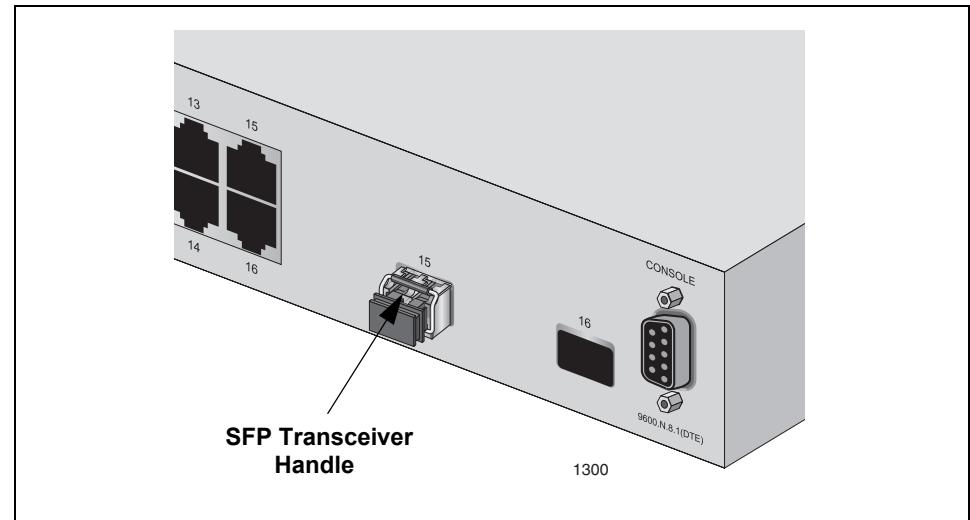

Figure 13. Positioning the SFP Handle in the Upright Position
5. Verify that the handle on the transceiver is in the upright position, as shown in Figure 13. This secures the transceiver and prevents it from being dislodged from the slot.